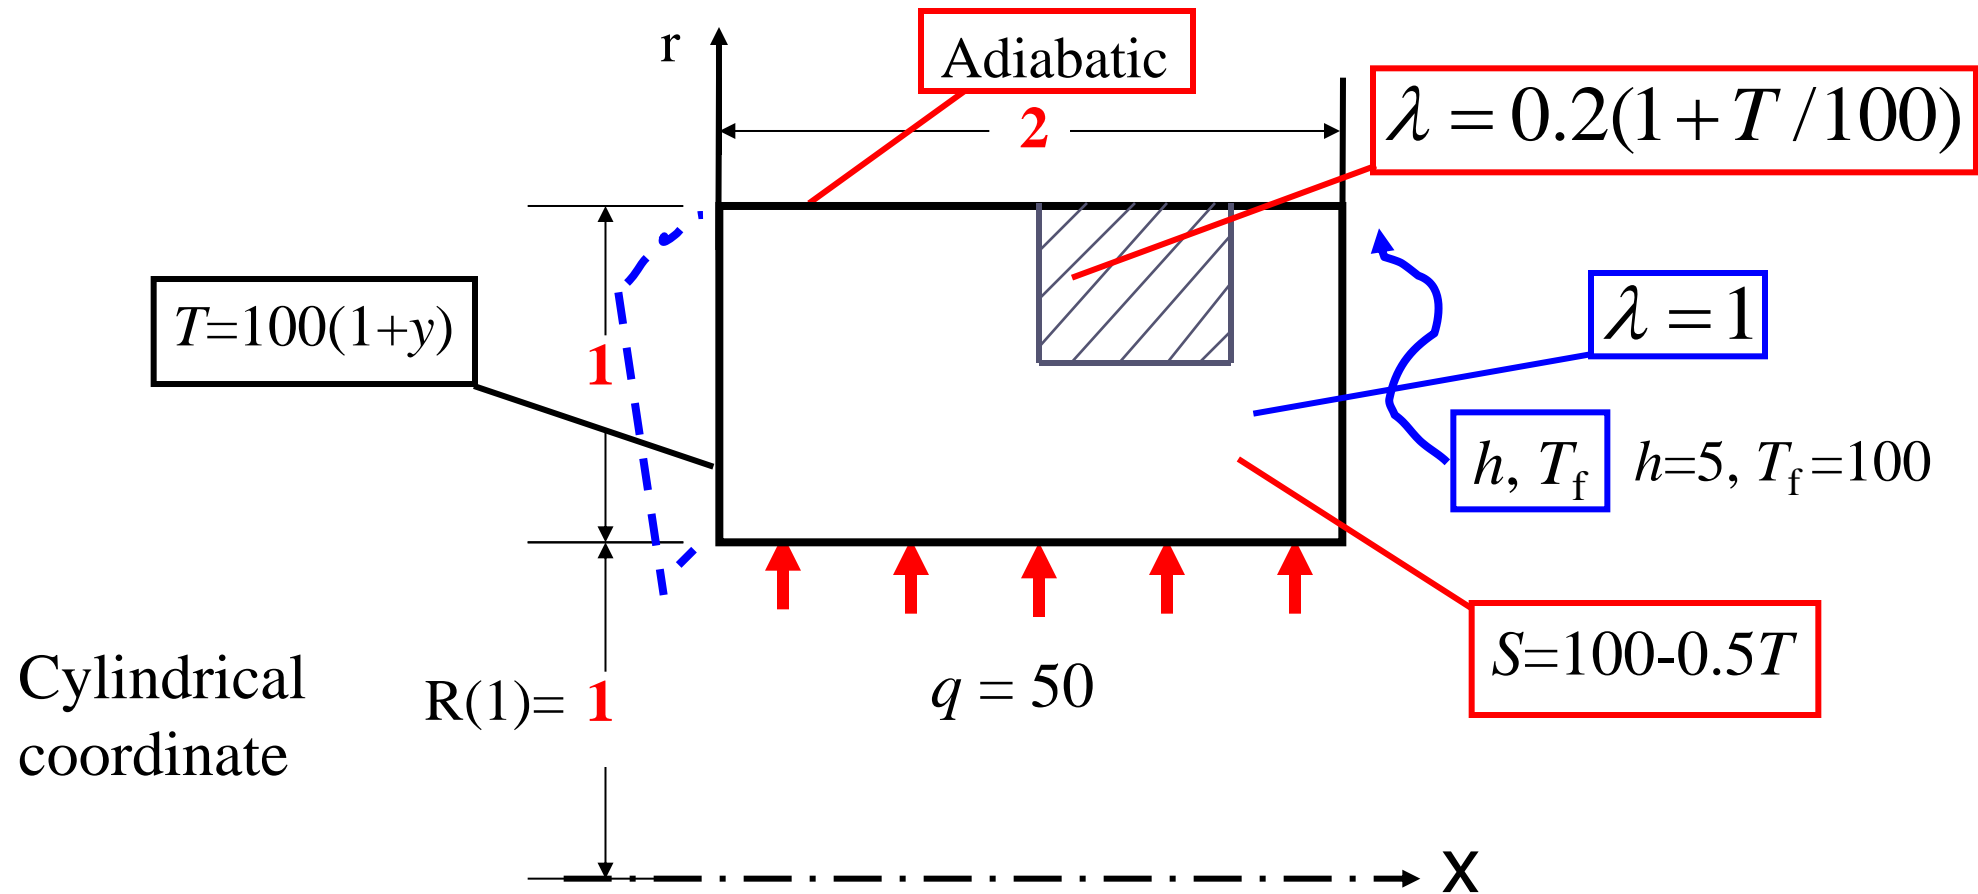

Fig.1 Diagram
**Known:** Steady heat conduction in a hollow cylinder with variable property and source term shown in Fig. 1 has following boundary conditions: